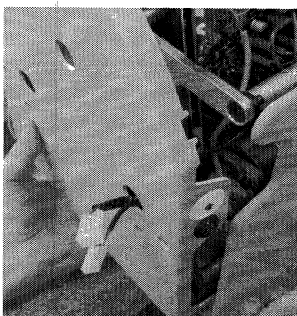

Fig. 9
- h. Route wiring harness through right-hand hole in carriage front cover (Fig. 9).